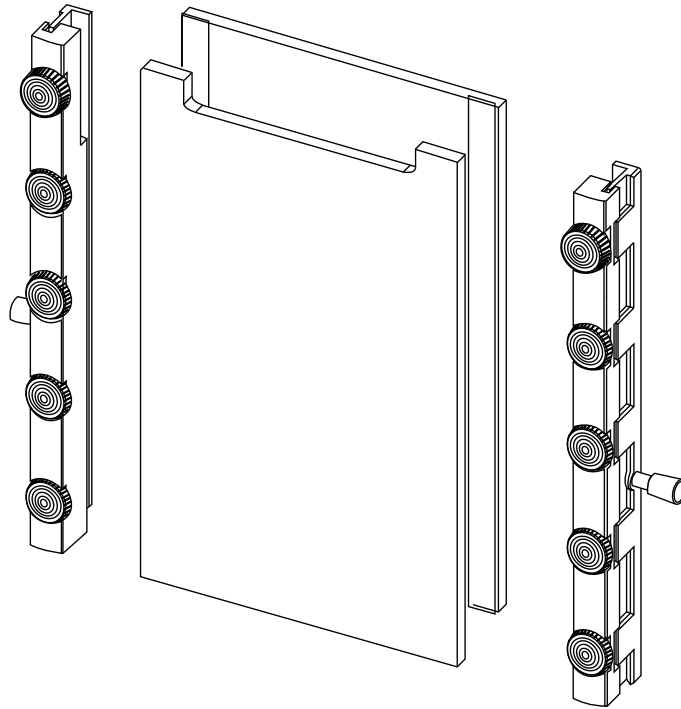

Figure 5-4. Orientation of rails and plates before assembly.
3. Make sure the rails are completely dry from prior runs before assembly. Align the spacers with the outside edges of the plates. Place the left and right rail assemblies over the plate edges (Figure 5-4).